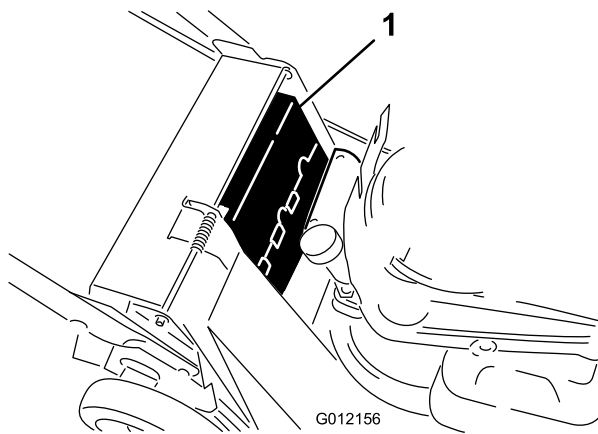

Figure 26
6. Remove the upper belt cover (Figure 26).